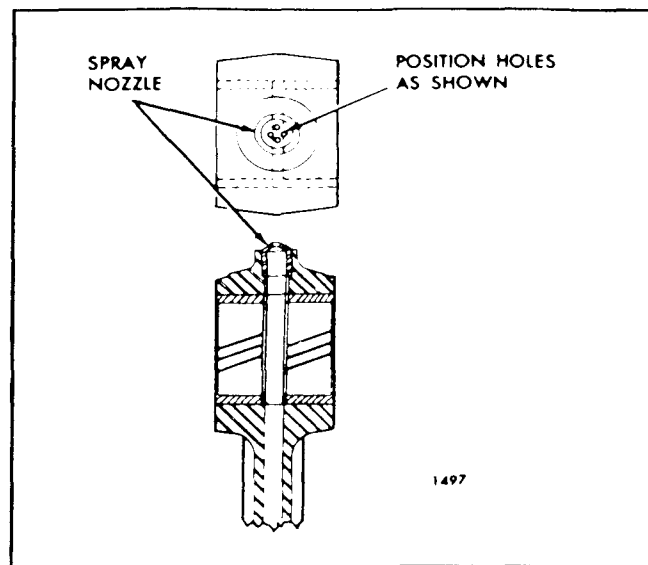

Fig. 6 - Location of Spray Nozzle in Connecting Rod
1. Start the spray nozzle, with the holes positioned as shown in Fig. 6, straight into the counterbore in the top of the connecting rod.